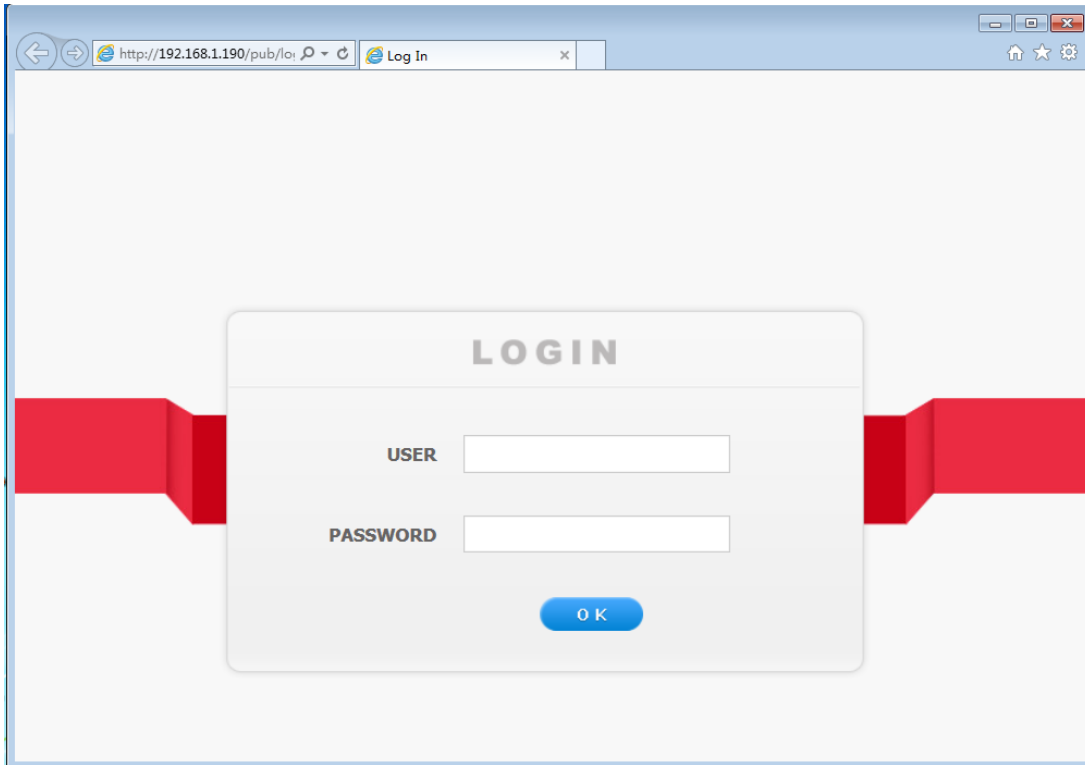

Figure 8 - Web login interface
1. In your browser, enter http:// and the controller's IP address and press ENTER. If your site requires secure HTTP and you were furnished with an LMP-SC configuration with secure HTTP, enter http:// and the controller's IP address and press ENTER. The following Web Interface Login window opens (Figure 8). Enter a valid Username and Password, then click OK.